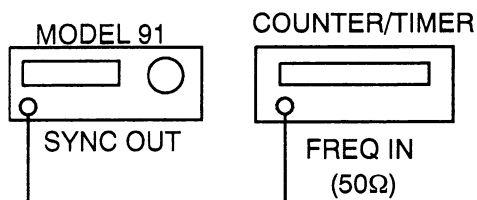

Figure 3-1. Frequency Setup
2. Connect the Model 91 and test equipment as shown in figure 3-1.